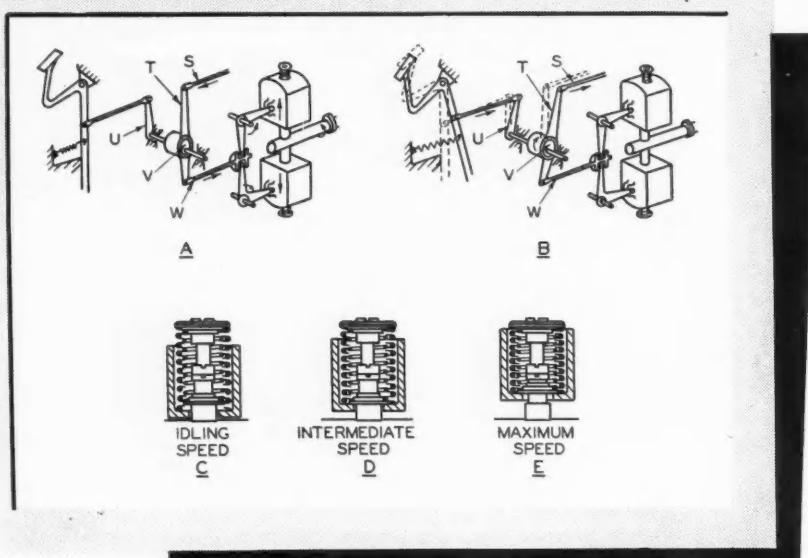

Fig. 10. Bosch Two-Speed Centrifugal Governor. This design governs at idling and maximum speeds only.
Using a greater effective force without affecting the pedal reaction is accomplished with the linkage system shown in Fig. 10. This linkage permits the governor to control the idling and maximum speeds only, intermediate speeds being controlled directly by the operator. Two springs are always used, the maximum speed spring being preloaded to "collapse" at the desired top speed. The outer spring only is active in idling, as in (C), the linkage relationship then being as in (A).